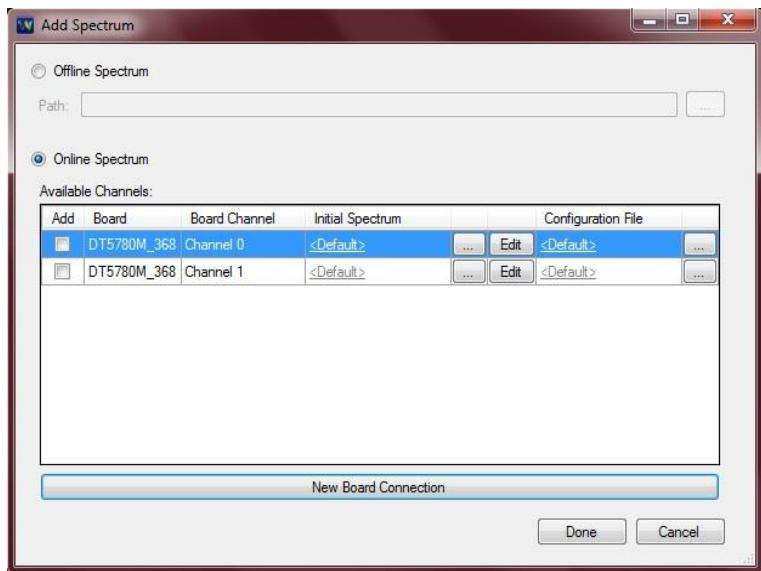

Fig. 4.6: MC²Analyzer Menu Bar - “File/Add Spectrum/New Board Connection/Connect/Close” Dialog Box
The following dialog box will then appear (see Fig. 4.6), allowing the user to select and mark the digitizer channels to be enabled for the acquisition and display of new live spectra:
- **Rebin Dialog:** Clicking on the “Rebin Dialog” allows the user to transform a High-Resolution Spectrum (i.e. a 16K channels spectrum) into a lower resolution spectrum (i.e. a 2 K channel spectrum) by clustering the values of the counts in the adjacent bins according to the rebin factor (i.e. the counts values of 8 adjacent bins of a 16K spectrum are summed into the corresponding single bin in a 2 K channels spectrum). Accepted values are: 16K, 8K, 4K, 2K, 1K. The same menu is available from the “**Edit**” function of **Fig. 4.6**, at the pull-down menu “**ADC channels**”.